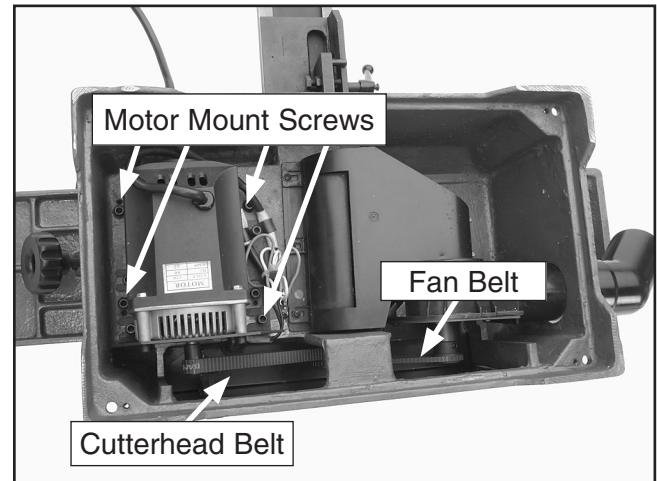

Figure 46. Motor mounting screws and belt locations.
6. Loosen the four motor mounting cap screws (see Figure 46), but do not remove them.